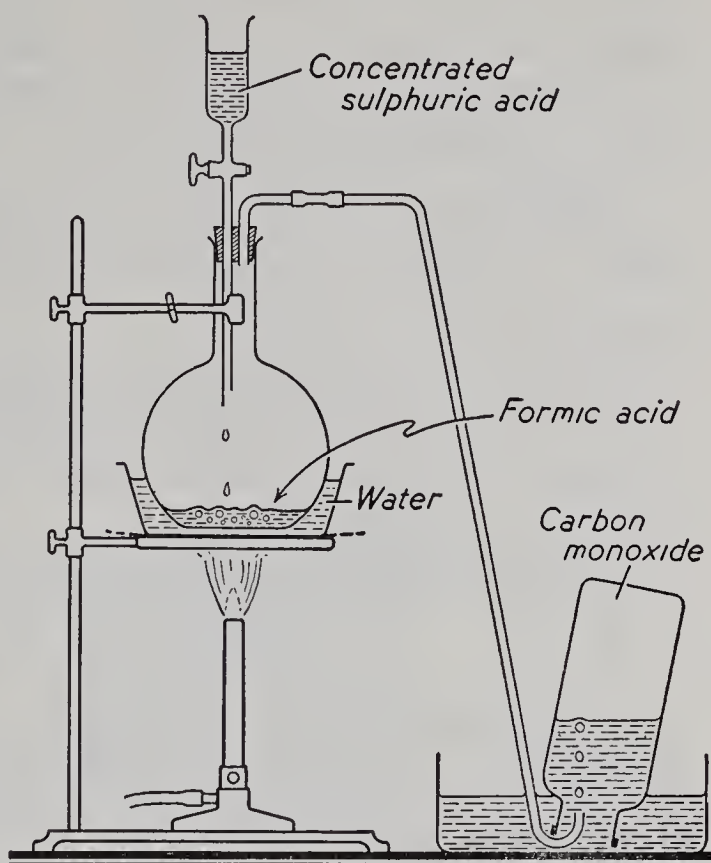

Fig. 55. The laboratory preparation and collection of carbon monoxide.
1. Arrange the apparatus as in Fig. 55, and after the formic acid has been warmed slightly, let the concentrated sulphuric acid fall, one drop at a time, into the flask.